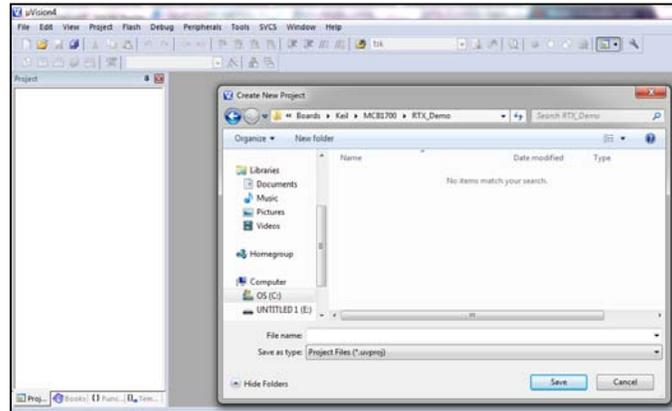

Fig 3: Create New Project
3. You should see a window appearing similar to the one shown in Fig 3. Select the icon for "New Folder" and name your working folder "Blinky".